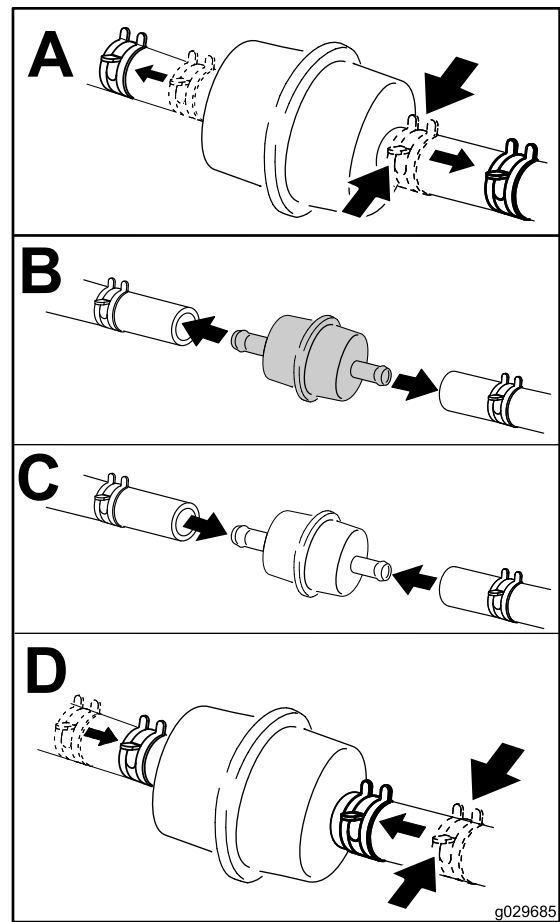

Figure 70
5. Replace the fuel filter (Figure 70).